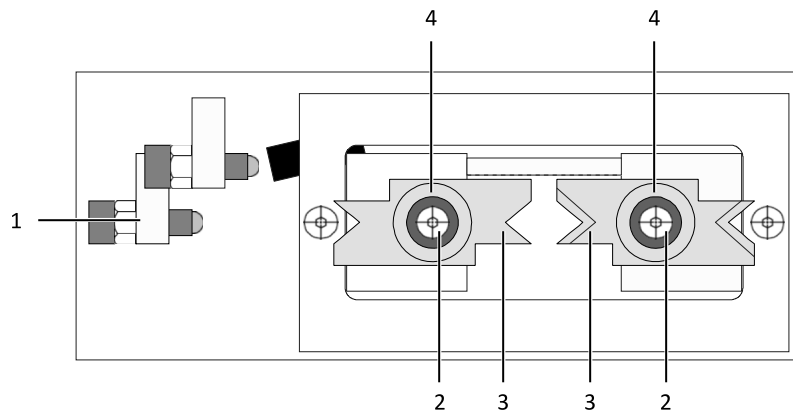

Fig. 9: Interior view
- Oil very sparingly the wire-holding pliers (inner side of the front plate) and the pressure-ball screws (fig. 9) with standard motor oil.